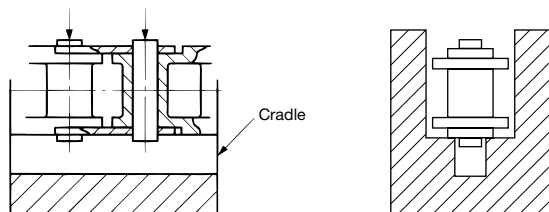
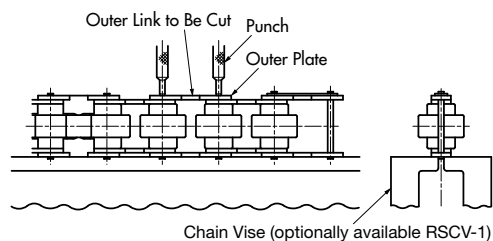

Figure 15: Cross Section Showing Poly Steel Chain Set in Cradle
Figure 16: Disconnecting Poly Steel Chain
- Place the outer plate of the chain in a cradle, position a special punch on the head of the pin (see photo in Figure 16 below), and lightly strike with a hammer (Figure 15).